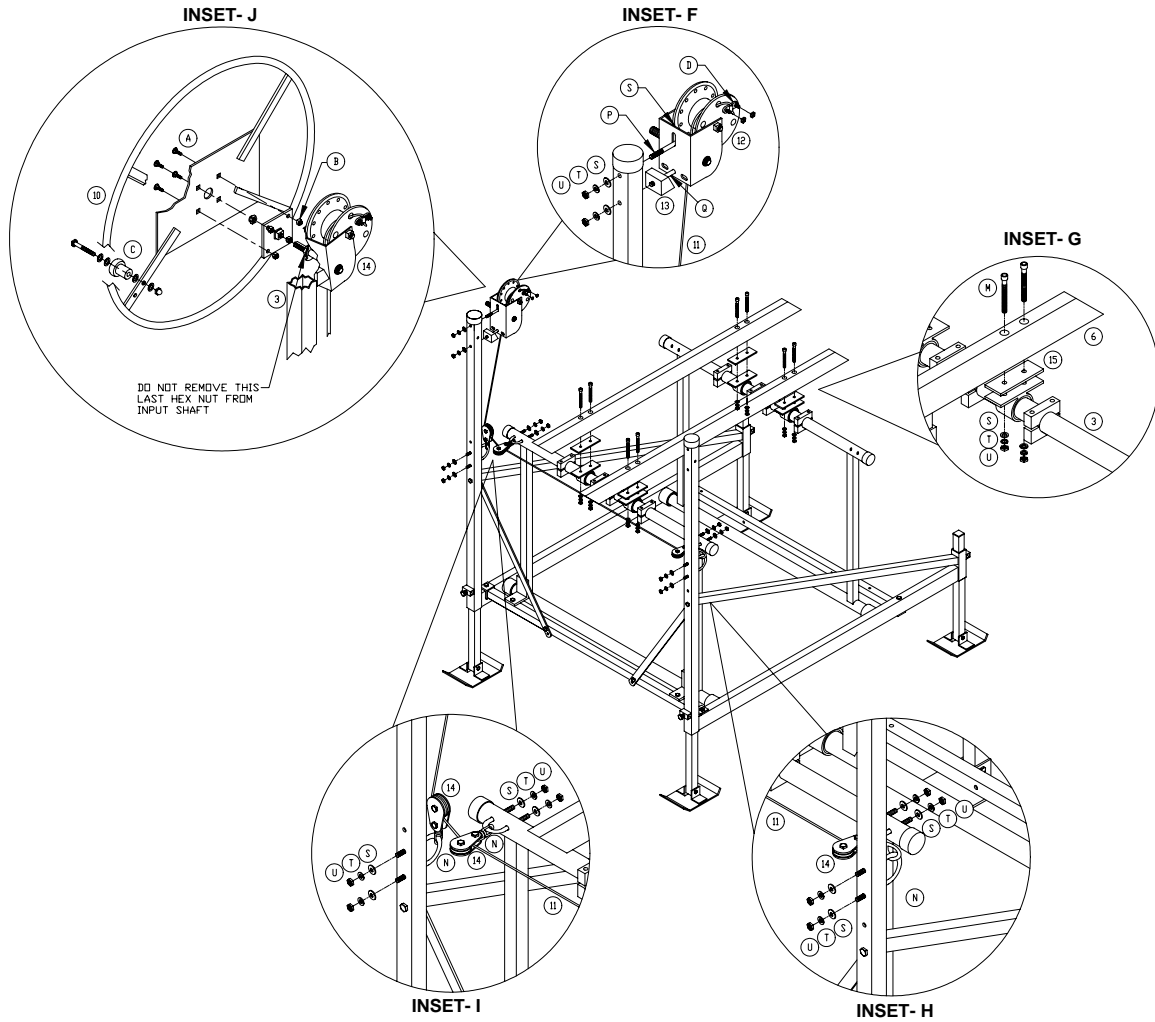

Figure 3-3
1. Refer to **Figure 3-3**. If mounting winch on the right side of lift, install winch wedge between right-hand side assembly and winch as shown in **Inset F**.
3. Refer to **Figure 3-3**. Attach handwheel to winch adapter plate (preassembled on the winch input shaft).
4. Refer to **Inset J** of **Figure 3-3**. Attach the spinner knob to the handwheel using the preassembled hardware. Select the hole in the handwheel spoke that is most comfortable for lowering the lift.
1. Refer to **Figure 3-3**. Install polymer block on each side of the bow lifting arm assembly by inserting U-bolt through the swivel of the polymer block and attaching it to the lifting arm as shown in **Inset I**. Insure the U-bolts are angled downward when the lifting arm is in the upright position.
1. Refer to **Figure 3-3**. Install the wire rope clamp outside the drum flange as shown in **Inset F**. Do not tighten.
2. **Right Side Mounted Winch** – Refer to **Figure 3-3**. Feed the wire rope into the winch between winch frame and backside of drum. Continue reeving wire rope over drum, through hole in drum flange and under the wire rope clamp with one inch extending past the clamp as shown in **Inset F**. Tighten nuts on clamp to hold wire rope in place.
- Refer to **Figure 3-3**. Attach wood bunks as shown in **Inset G**. Insure the spacer is installed between each bunk bearing assembly and wood bunk. Mount the bunks with carpeted seams facing each other and seam openings facing down.